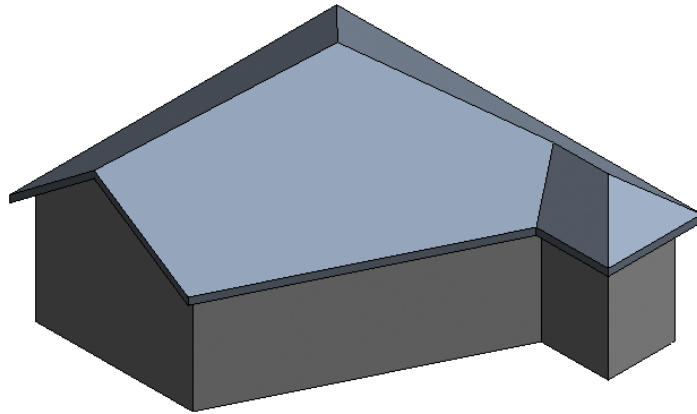

FIGURE 3.27 Removing a defined slope
7. Finish the sketch, and the results resemble Figure 3.27. Because the walls were previously told to attach to the roof, a gable condition is created.